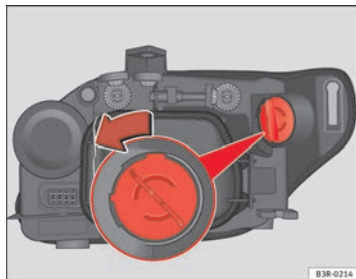

Fig. 219 DRL light (day light)
- Turn the bulb holder anti-clockwise, pulling it by the grip ⇒ fig. 219 and removing the bulb holder and the bulb.